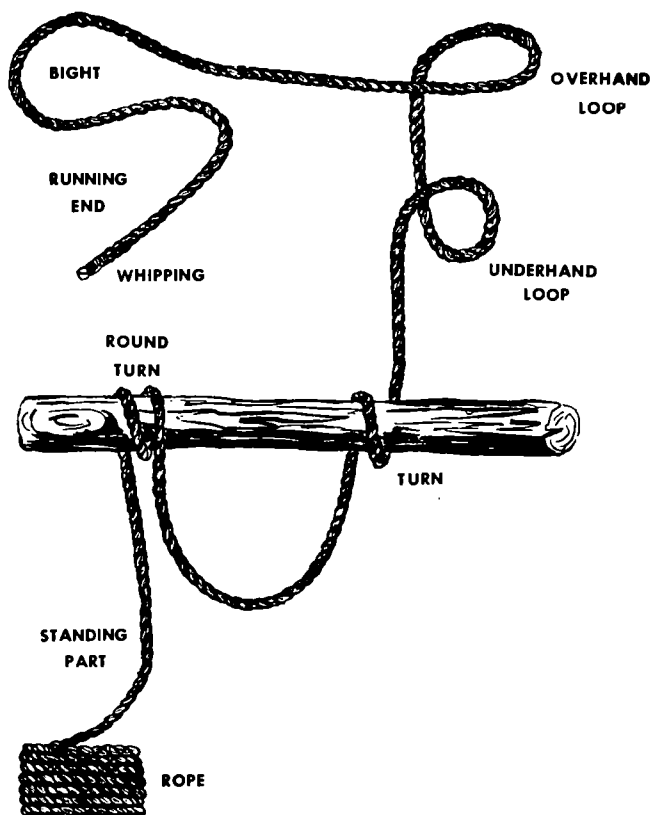

Figure 49. Elements of rope used in rigging.
- (1) *Running end.* The running end is the free or working end of a rope.
- (2) *Standing part.* The standing part is the balance of the rope excluding the running end.
- (3) *Bight.* A bight is a bend or U-shaped curve in a rope.
- (4) *Loop.* A loop is a fold or doubling of a rope through which another rope can be passed. A temporary loop is made by a knot or a hitch. A permanent loop is made by a splice or some other permanent means.
- (5) *Turn.* A turn is the same as a loop, but usually describes the placing of a rope around an object such as a post, rail, or ring with the running end continuing in the direction opposite to the standing part.
- (6) *Round turn.* A round turn is the same as a turn, with the running end leaving the encircled object in the same general direction as the standing part.
- (7) *Overhand turn or loop.* An overhand turn or loop is made when the running end passes over the standing part.
- (8) *Underhand turn or loop.* An underhand turn or loop is made when the running end passes under the standing part.
b. Figure 49 illustrates each of the above.